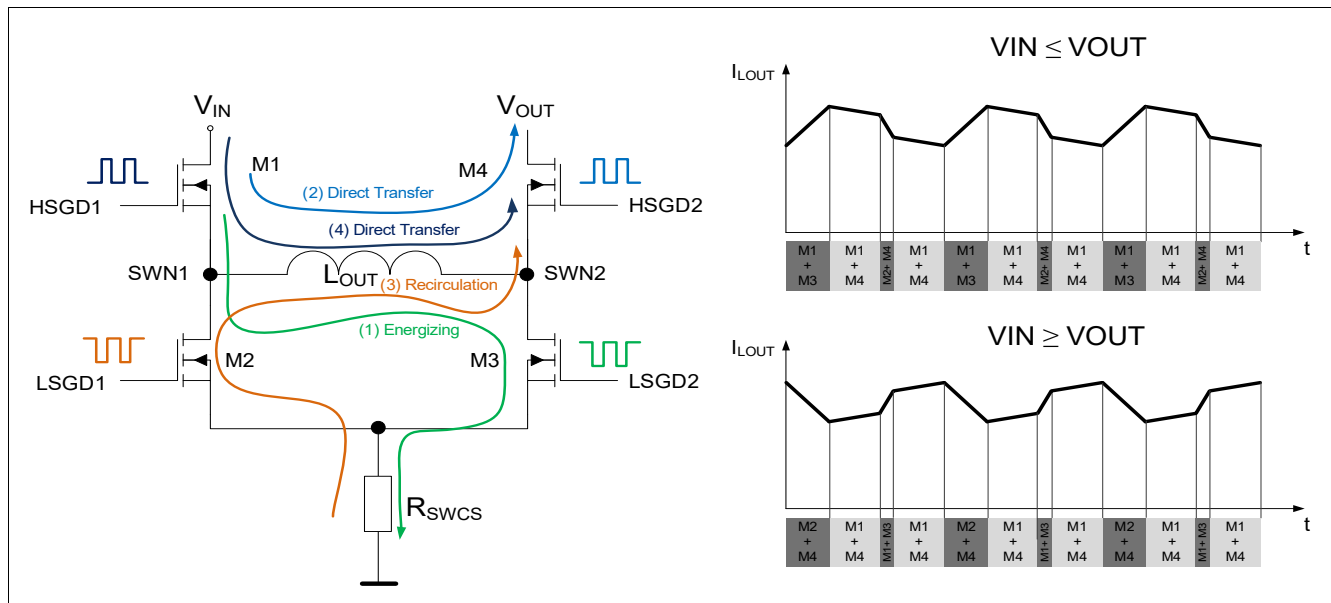

Figure 16 4 switches H-Bridge architecture in BUCK-BOOST mode
- The two buck boost waveforms and switching behaviors are displayed in **Figure 16** below